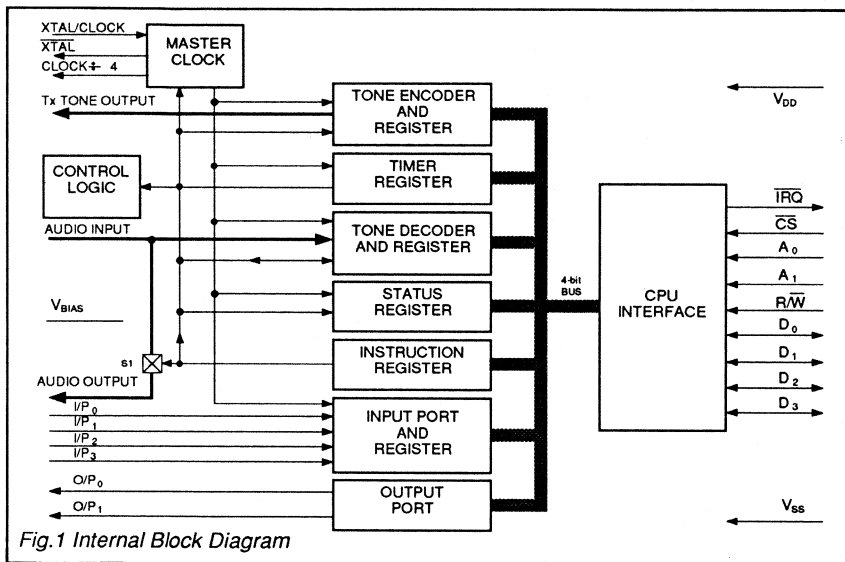

Fig.1 Internal Block Diagram
**Audio Input** : The audio input to the Tone Decoder and audio output switching. The composite (voice and tone) received audio requires to be coupled to this pin via capacitor C3. See Figures 1 and 2.